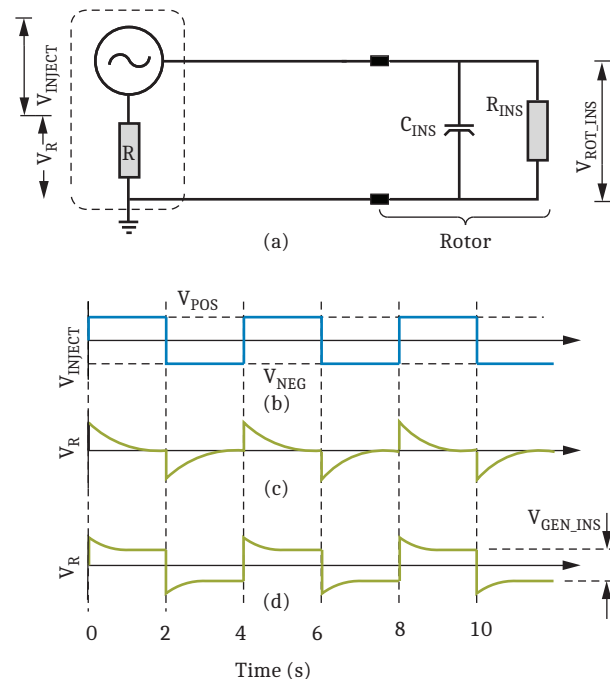

Figure 15 SEL-2664 Circuit Diagram (a); Injected Voltage and Current (b-d)
The equivalent circuit of the SEL-2664 and the generator rotor field is as shown in *Figure 15(a)*. The SEL-2664 applies a pulsating voltage (V_{INJECT}) to the generator field and measures the magnitude of the voltage drop across an internal resistor to ground (R), as shown in *Figure 15(b)*. When the rotor insulation is normal or healthy, the major portion (>95 percent) of the injected voltage is dropped across the rotor insulation ($V_{\text{ROT_INS}}$) and very little voltage is dropped across the resistor internal (V_R) to the SEL-2664, *Figure 15(c)*. When the rotor field experience a ground fault, the major portion of the injected voltage is dropped across the internal resistor, as shown in *Figure 15(d)*.